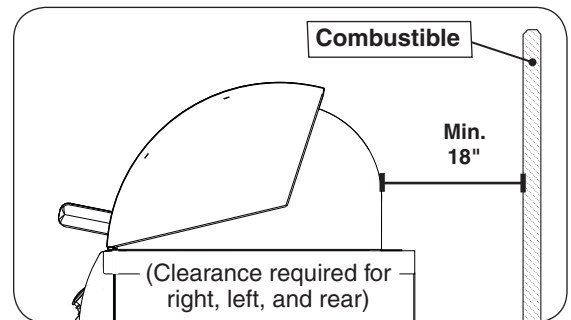

Fig. 11-3 Clearance 'C' Diagram
- The unit must have a minimum of 18" right, left, and rear clearance from any combustible wall (see Fig. 11-3).